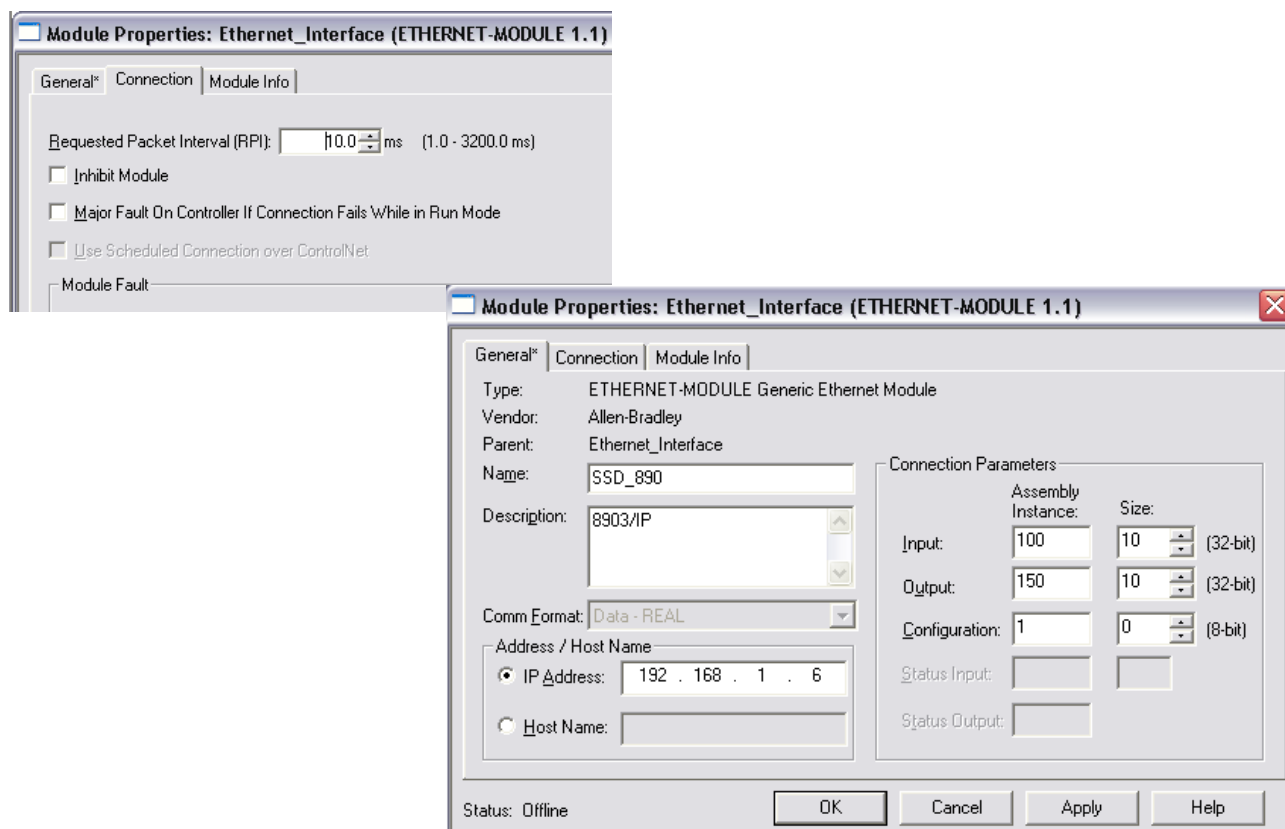

Figure 20. Generic Ethernet Module Setup
- Input the desired module name and IP address. The Comms format will be DATA Int if 16-bit signed integer, or Data-REAL if 32-bit floating point. The Input Assembly Instance is 100 and the Output Assembly Instance is 150. Refer to Figure 20.
- Click on Next to change the Requested Packet Interval (RPI). The default value of 10ms should be sufficient. If the RPI is set below 5ms unreliable communications may be experienced. Refer to Figure 20.